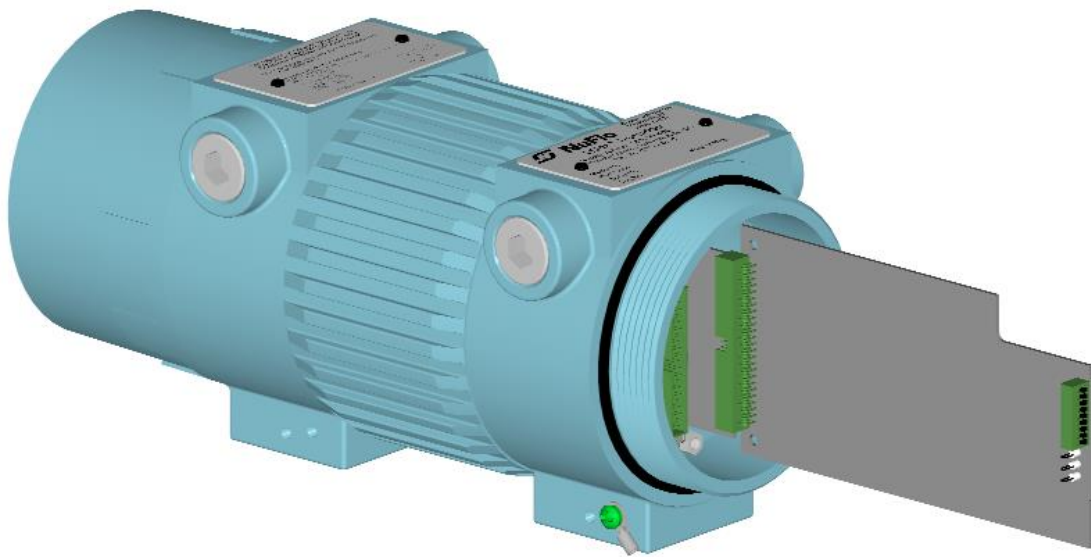

Figure 8.12: IOB, CTC, MXR Board Removal
5. Identify the board requiring replacement. The end of the board farthest from the operator is attached to a connector deep inside the transmitter body. To remove a board, simply grasp the board and gently pull in a back-and-forth motion until it releases from the connector (Figure 8.12).